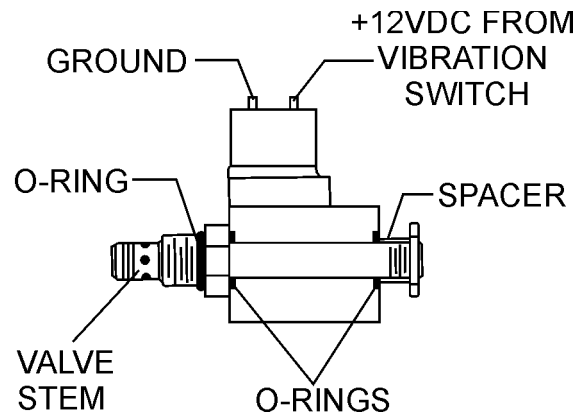

Figure 36. Vibration Solenoid
1. Insert an 8 mm allen wrench into steering relief port 4 (Figure 36) on the manifold block.
The vibrator solenoid (Figure 36) is located in the manifold valve block and is controlled by the vibration switch located on top of the travel lever. This solenoid controls the vibration control valve which supplies hydraulic oil to the vibration drive motor.